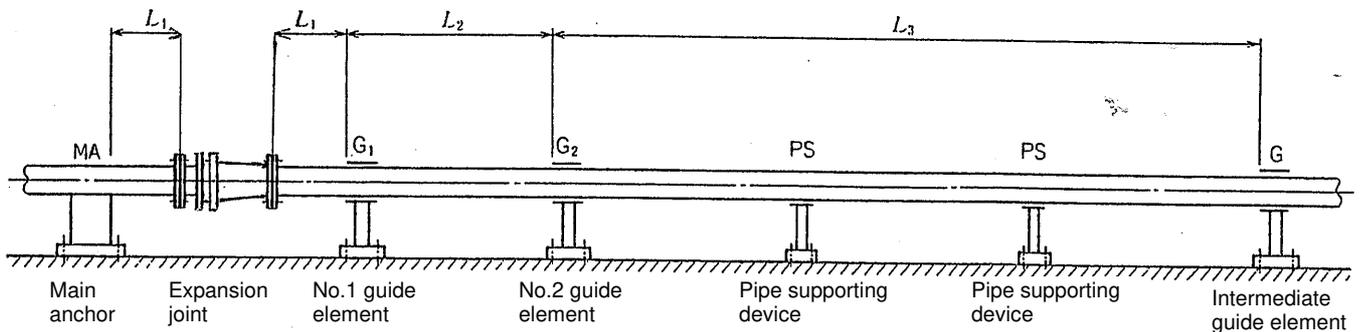

Fig.1 Mounting intervals of guide element
In a piping using expansion joints for absorbing axial movements, guide elements(G) shall be installed to align the pipe joint and pipe and transmit the force necessary for axial movement smoothly to the anchor. As given in figure 1, the installation intervals of respective guide elements such as the interval (L_1) from the expansion joints to No.1 guide element, the interval (L_2) to No.2 guide element and the interval (L_3) to the intermediate guide elements shall not exceed the interval values obtained from formula (F) to (H) shown in the following ① to ③.